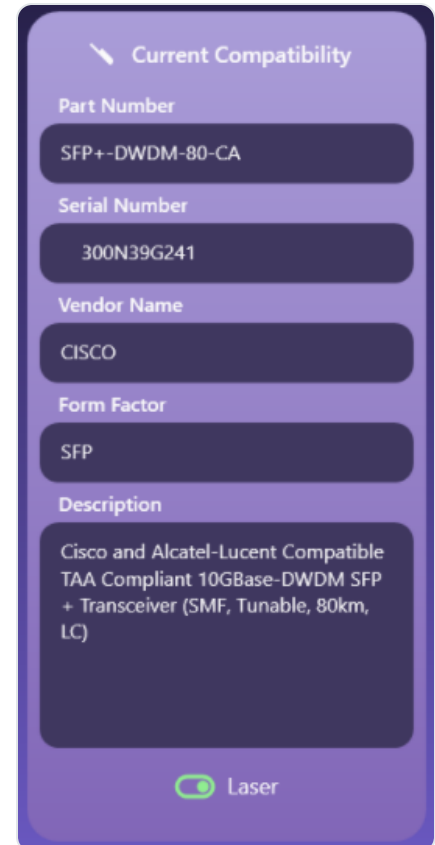

Figure 4 · Current Compatibility column
- 4 Review the **Current Compatibility** column (Figure 4): part number, serial number, vendor, form factor, and description.